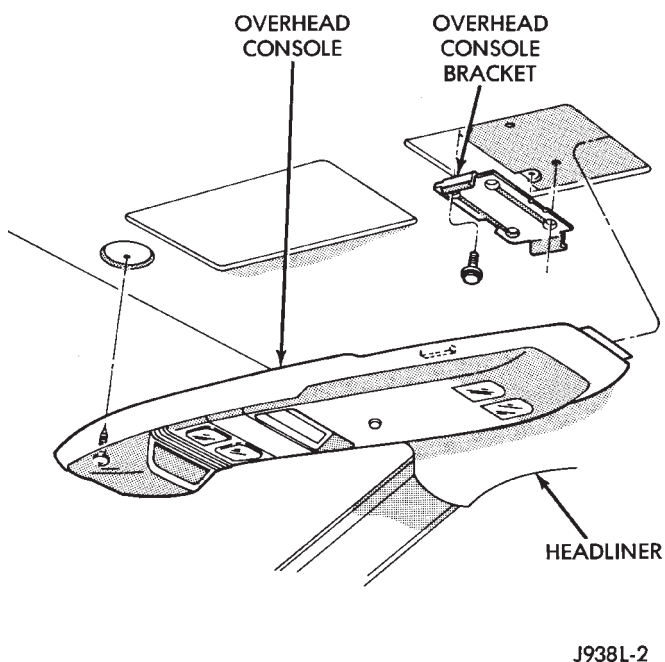

Fig. 3 Overhead Console Remove/Install - Long-Type
(1) Disconnect and isolate the battery negative cable.
(2) Remove the mounting screw, forward of the display unit (Fig. 3).